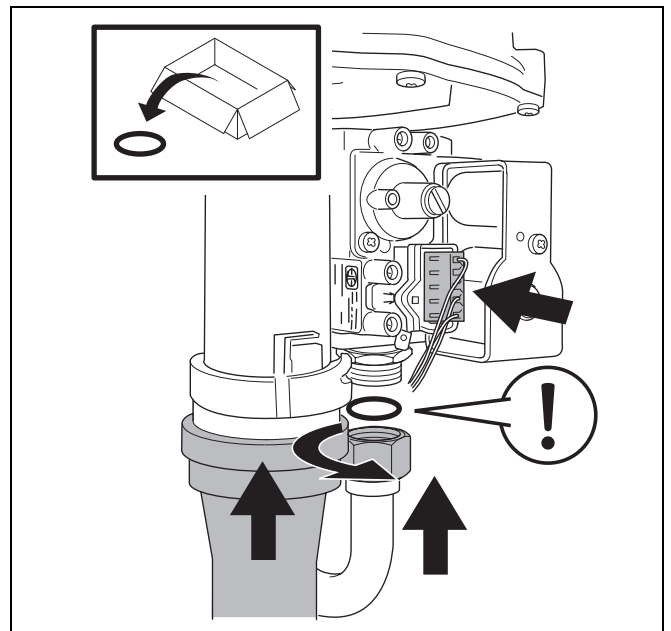

fig. 60 Place a new flat seal
- Place a new flat seal between the gas pipe and the gas valve (→ fig. 60).